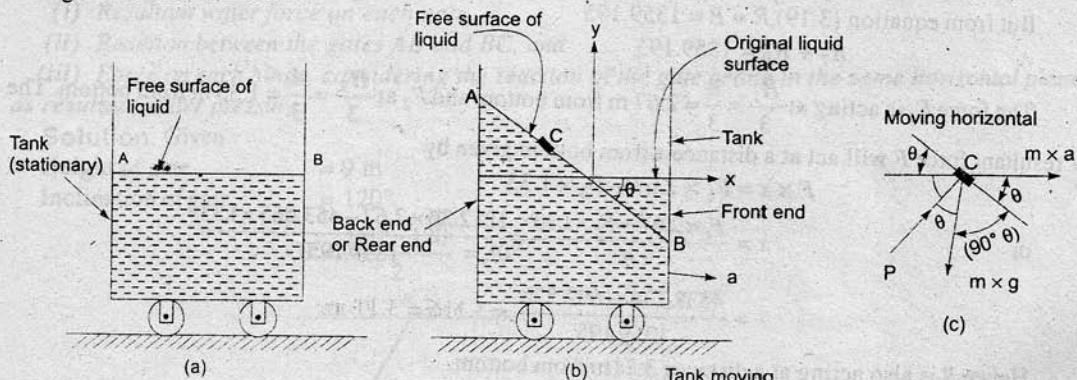

Fig. 3.43
**3.8.1 Liquid Containers Subject to Constant Horizontal Acceleration.** Fig. 3.43 (a) shows a tank containing a liquid upto a certain depth. The tank is stationary and free surface of liquid is horizontal. Let this tank is moving with a constant acceleration ' $a$ ' in the horizontal direction towards right as shown in Fig. 3.43 (b). The initial free surface of liquid which was horizontal, now takes the shape as shown in Fig. 3.43 (b). Now AB represents the new free surface of the liquid. Thus the free surface of liquid due to horizontal acceleration will become a downward sloping inclined plane, with the liquid rising at the back end and the liquid falling at the front end. The equation for the free liquid surface can be derived by considering the equilibrium of a fluid element C lying on the free surface. The forces acting on the element C are :